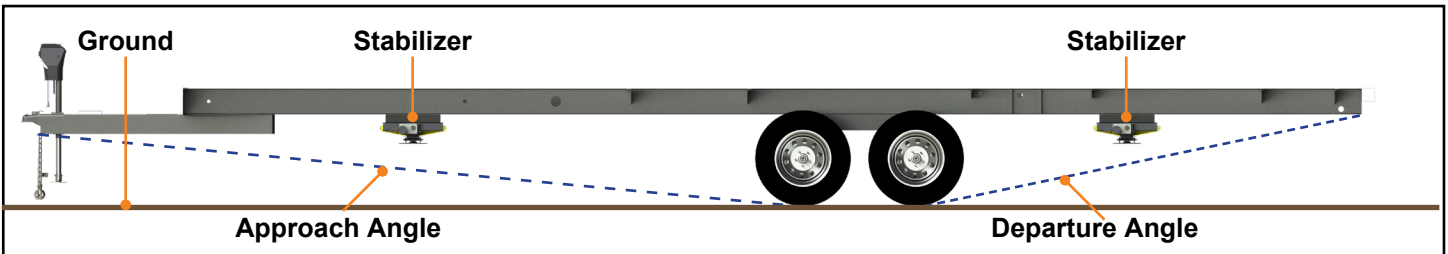

Fig.18
2. To measure approach and departure angle, run a string line from the meeting point of the tire and ground up at an angle to the lowest point on the front and rear of the trailer. These string lines are shown as dotted lines (Fig. 18).